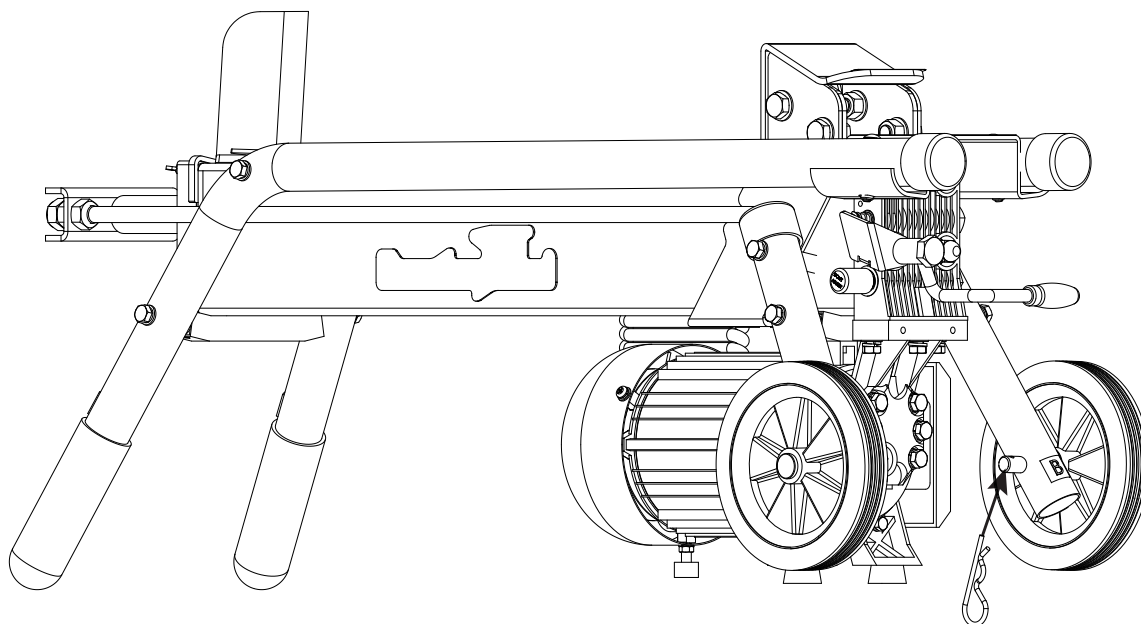

Figure 3
2. Insert the hairpin into each of the axles. **(SEE FIGURE 3)**